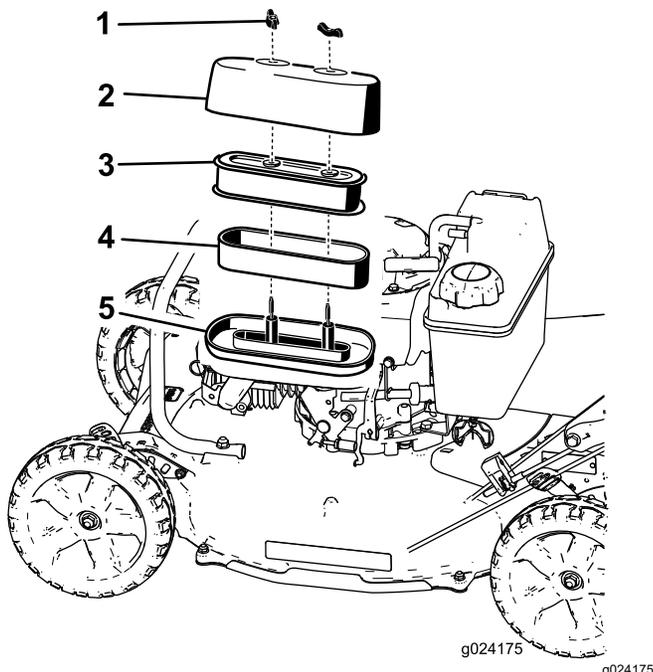

Figure 23
3. Remove the 2 nuts that secure the cover (Figure 23).
5. Remove the foam and paper elements from the base of the air filter (Figure 23).
6. Remove the foam element from the paper element (Figure 23).